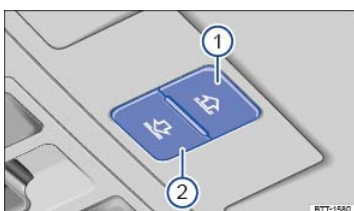

Fig. 200 In the roof console: Buttons for sunshade.
- Press the button ⇒ Fig. 200② to close the sunshade to the edge of the opened sunroof.